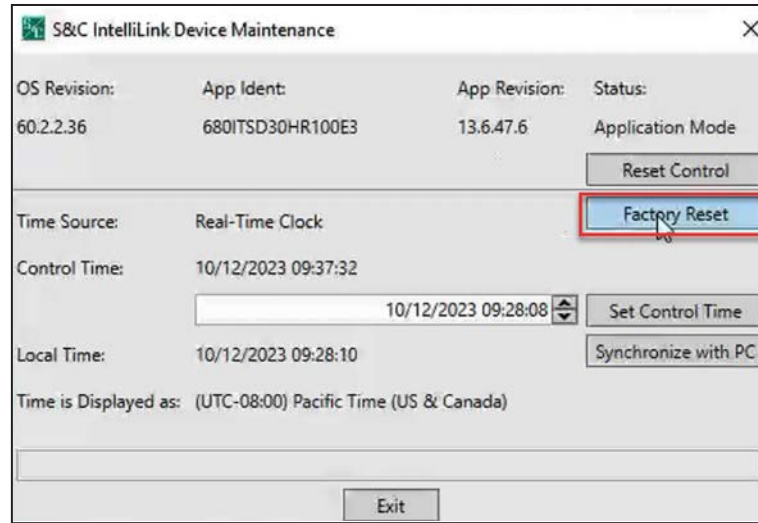

Figure 54. The **Factory Reset** button.
STEP 3. When the Device Maintenance window opens, click on the **Factory Reset** button to launch the **Factory Reset** procedure. See Figure 54.